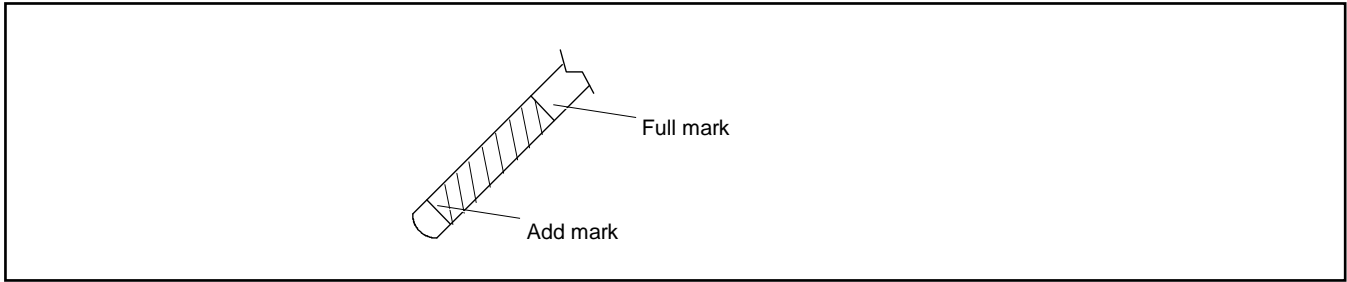

Figure 15 Oil Dipstick
10. Check engine oil level, making sure that the level lies between the Full and Add marks on the dipstick. See Figure 15.